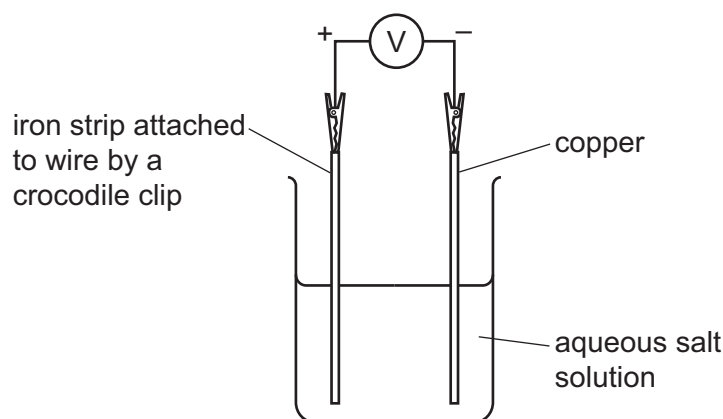

Fig. 4.2
- Attach a strip of iron to the positive terminal of the voltmeter and place it carefully at the opposite side of the beaker to the strip of copper as shown in Fig. 4.2. Do **not** let the metals touch.